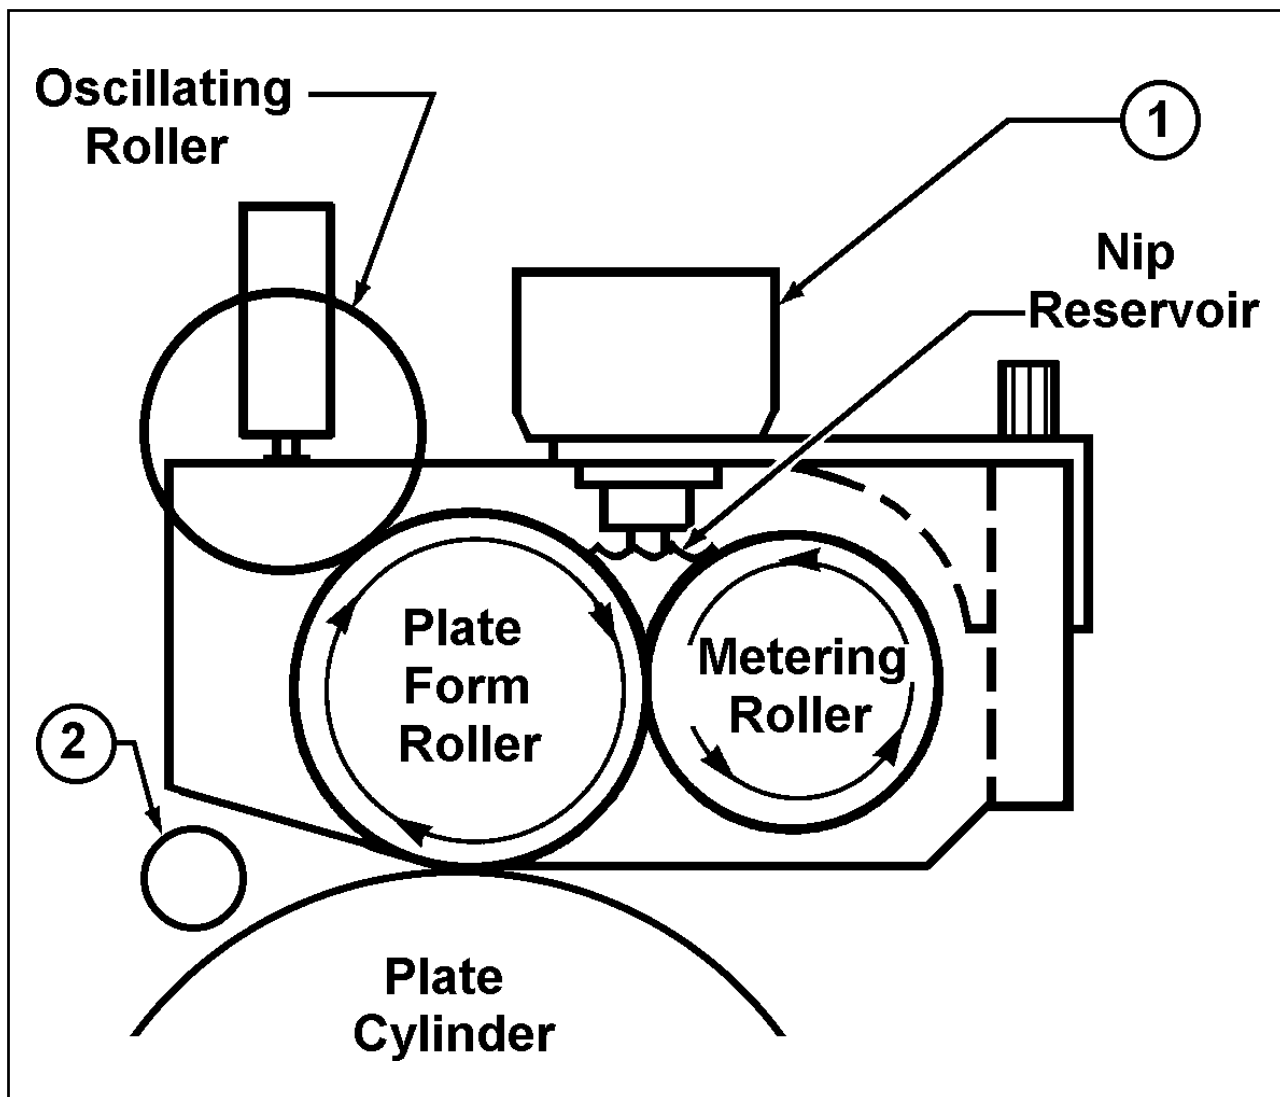

Figure 5 - 9910D Non-MotORIZED Continuous Dampener
1. Fountain solution flows from the bottle through the tubing to the filler valve assembly (1) (see Figure 5). The solution fills the nip between the plate form roller and the metering roller when the fluid level reaches the bottom of the filler valve (1). Air flow is shut off and the further flow of solution is prevented.
2. The dampener is controlled through the operator control lever. Movement of the lever in a clockwise direction rotates the eccentric dampener shaft (2), lowering the assembly into contact with the plate. Water control is automatically increased with the speed of the press, since the dampener is driven by the master cylinder.